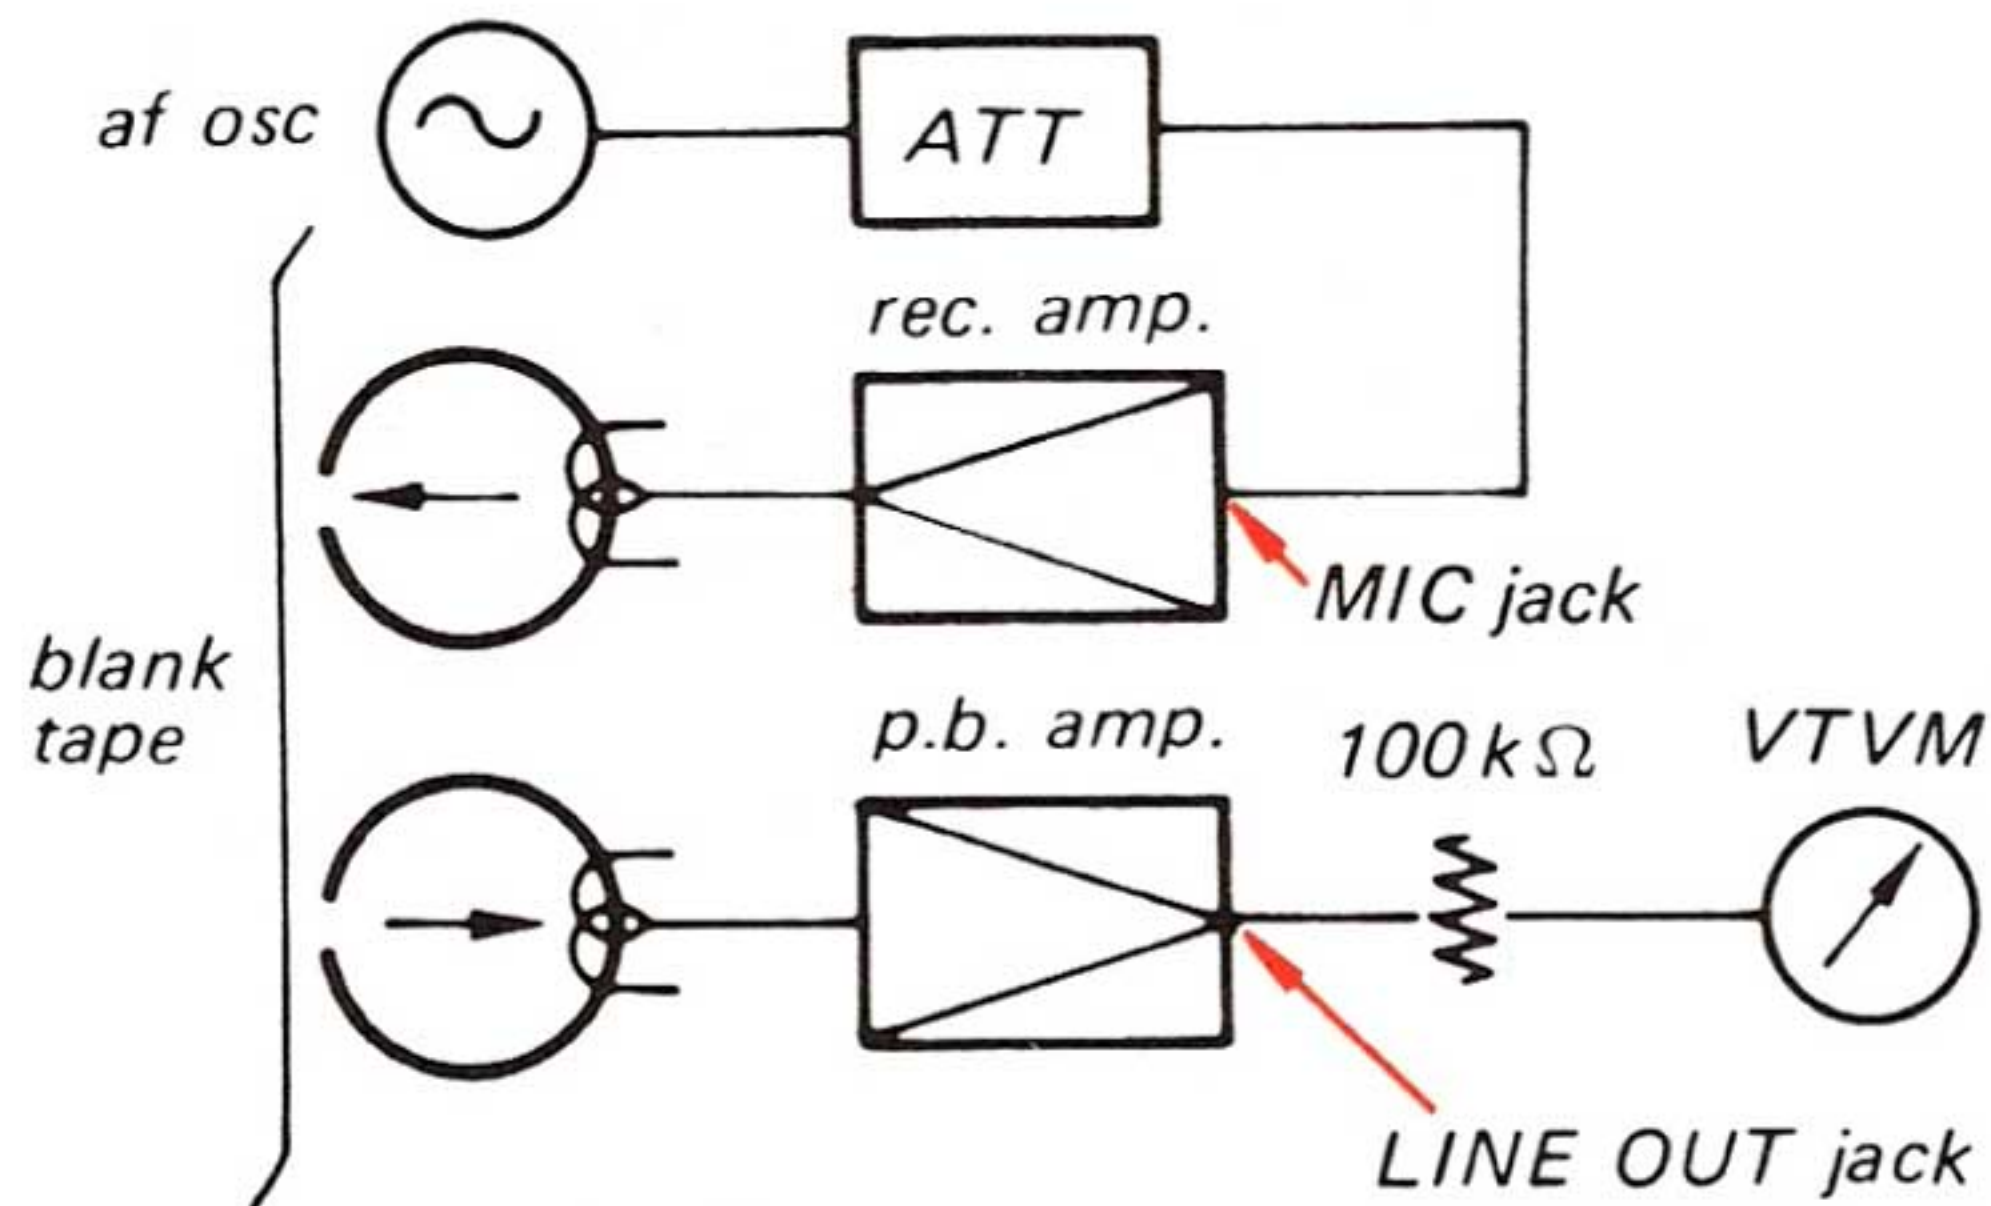

Fig. 3-2-9. Test setup for the items 8, 9 and 10
Step 3. Thread a blank tape and place the set in RECORD mode. (See Fig. 3-2-9.)
Step 2. Deliver a 15 kHz signal of -90 dB (0.0245 mV) to the MIC jack and adjust the azimuth adjusting screw to obtain a maximum meter reading. (See Fig. 3-2-9 and 3-2-10.)
Step 3. Deliver a 1 kHz signal of -60 dB (0.775 mV) to the MIC jack and turn the bias adjusting trimmer capacitor C122 (C222) at fully counterclockwise. (See Fig. 3-2-9 and 3-2-11.)